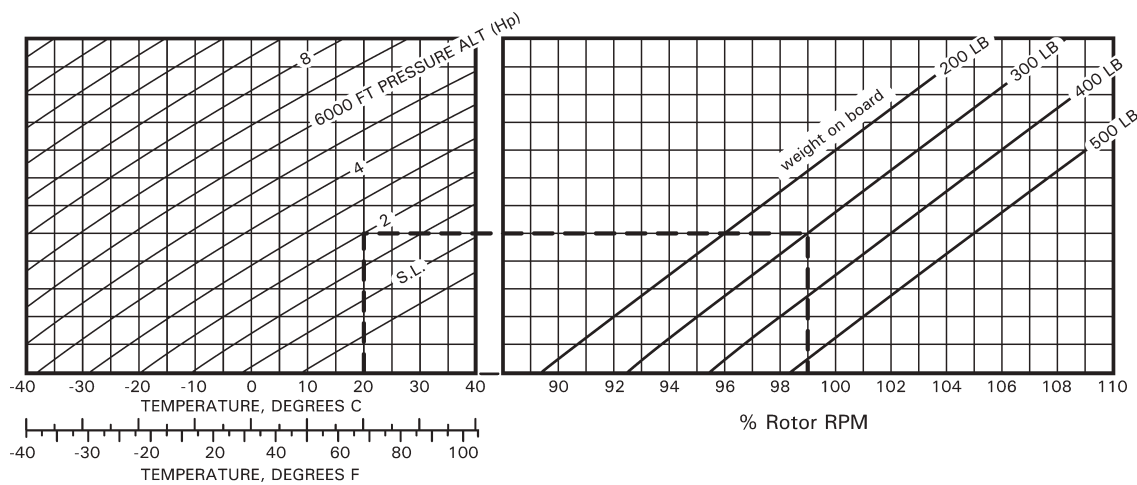

FIGURE 10-17 R44 AUTOROTATION RPM
3. After test flight, refer to Figure 10-17 chart and determine following: